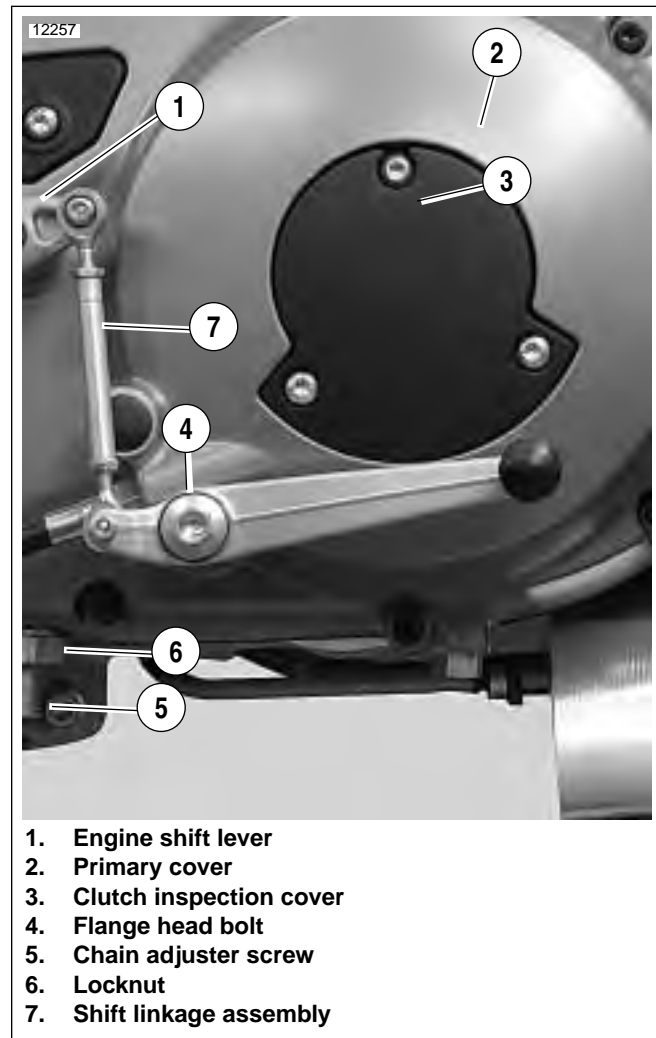

Figure 2-102. Installing Shift Linkage
4. See Figure 2-102. Install rubber washer and engine shift lever assembly (1).
5. After applying LOCTITE 272, install flange bolt (5) and shift pedal to primary cover, and tighten to 22-24 ft-lbs (30-32.5Nm).